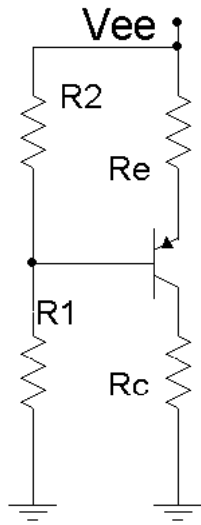

Figure 8.1
1. Consider the circuit of Figure 8.1 using  $V_{cc} = 10$  volts,  $R_1 = 10$  k $\Omega$ ,  $R_2 = 3.3$  k $\Omega$ ,  $R_e = 4.7$  k $\Omega$  and  $R_c = 5.6$  k $\Omega$ . Using the approximation of a lightly loaded “stiff” voltage divider, determine the theoretical base, emitter and collector voltages, and record them in Table 8.1 (Theory).
2. Build the circuit of Figure 8.1 using  $V_{cc} = 10$  volts,  $R_1 = 10$  k,  $R_2 = 3.3$  k,  $R_e = 4.7$  k and  $R_c = 5.6$  k. Measure the base, emitter and collector voltages and record them in the first row of Table 8.1 (Experimental).